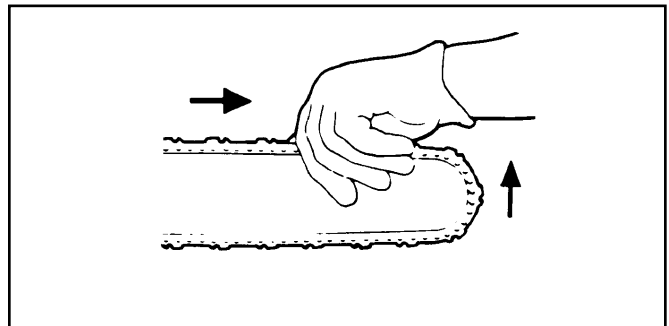

Figure 8. Pulling the Chain
7. Using the saw bar adjustment screw (Item 65, Parts Illustration), tighten the chain until you are still able to rotate it one full revolution by hand (Figure 8).